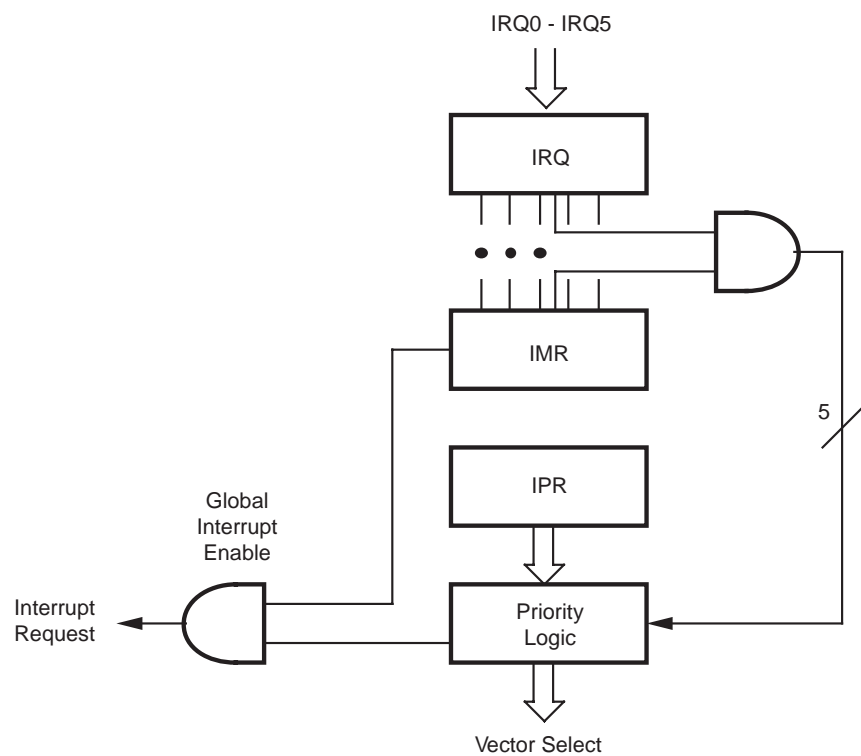

Figure 16. Interrupt Block Diagram
**Interrupts.** The Z8 has five interrupts from four different sources. These interrupts are maskable and prioritized (Figure 16). The sources are divided as follows: the falling edge of P31 (AN1), P32 (AN2), P33 (REF), the rising edge of P32 (AN2), and one counter/timer. The Interrupt Mask Register globally or individually enables or disables the five interrupt requests (Table 5).